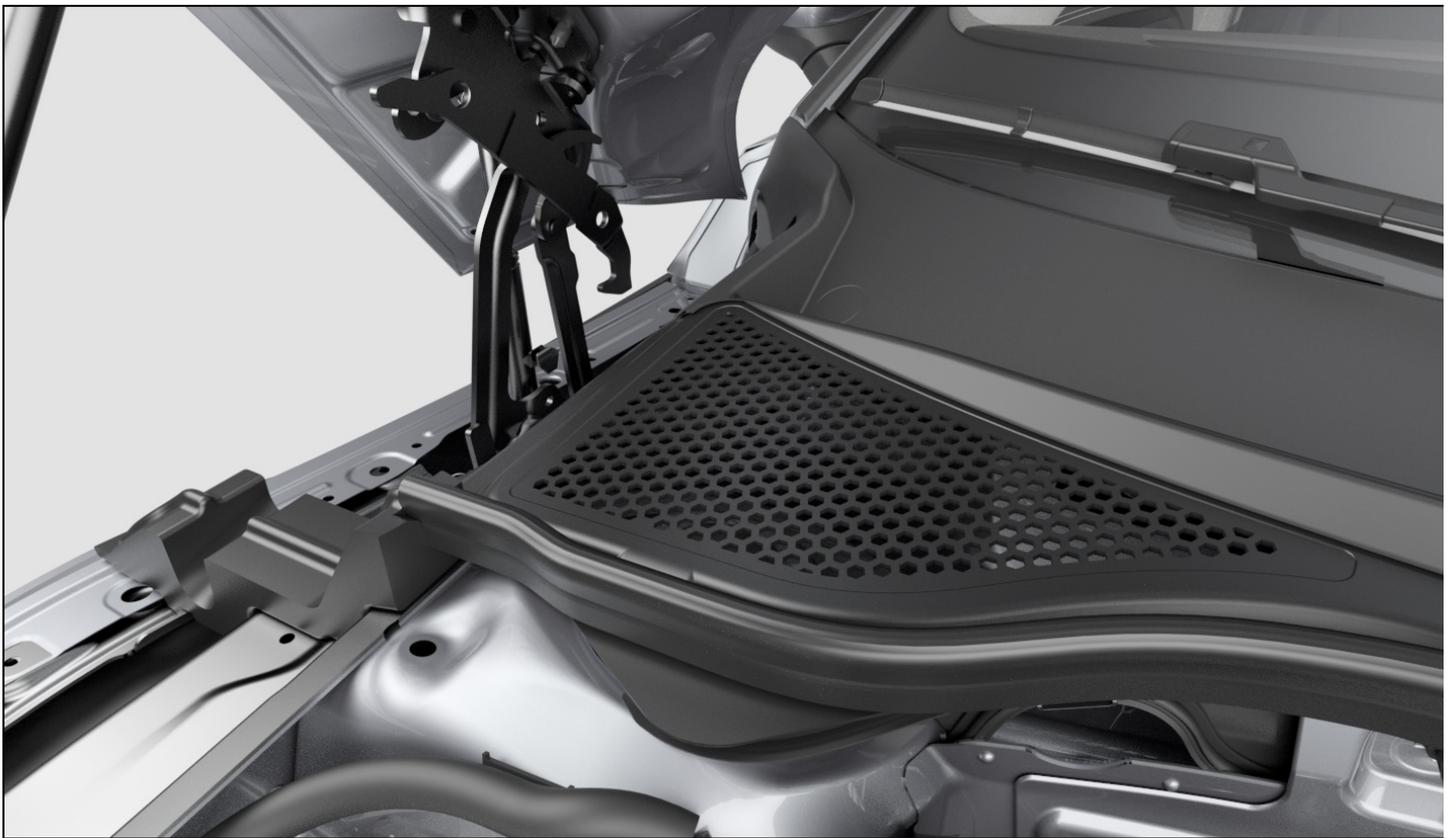

Fig. 223 Between the engine compartment and windshield: plenum chamber (general example).
- Remove leaves or other loose objects with a vacuum or by hand *fig. 223* , ⇒ .